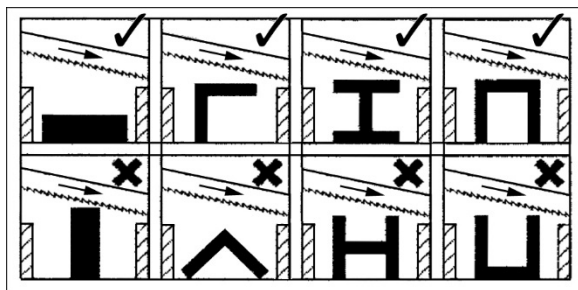

Figure 9-1: Clamping Positions
3. Position workpiece in vise and tighten vise. Workpiece should be fitted directly between the jaws without adding other objects. When workpiece is profiled section, flat piece, or special shape, refer to examples in Figure 9-1 for proper clamping positions. The top row shows acceptable clamping positions; the bottom row shows unacceptable positions.